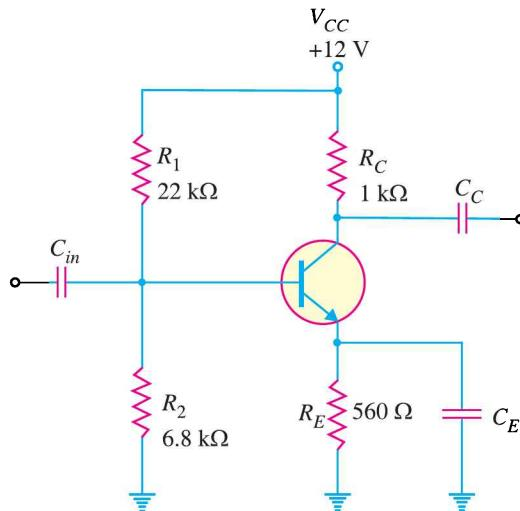

Fig. 10.4
**Example 10.2.** Select a suitable value for the emitter bypass capacitor in Fig. 10.4 if the amplifier is to operate over a frequency range from 2 kHz to 10 kHz.